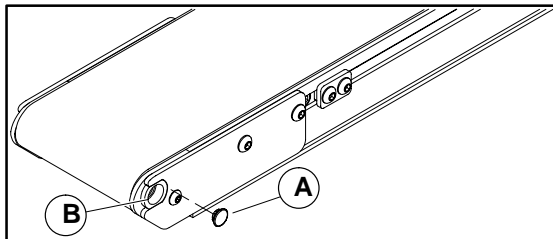
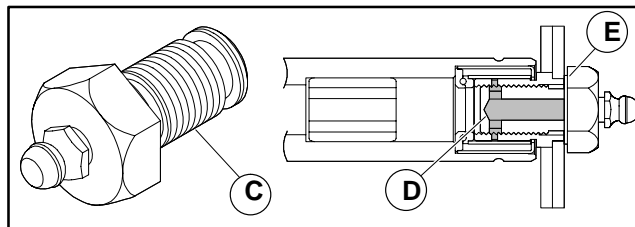

Figure 9
Figure 10
All non-driven positions have a plastic plug (A of Figure 9) installed into the ends of the pulley retaining sleeves (B). Use a small flat-bladed screwdriver to remove this plug.
1. Install Dorner greasing adapter part number 200046 (C of Figure 10).
2. Make sure the adapter shoulder (E) is seated against the conveyor tail plate. Proper seating assures alignment of the internal lubrication passages (D).
3. When lubrication is finished, grease adapter (C) can be left in place or can be replaced with the plastic plug (A of Figure 9).